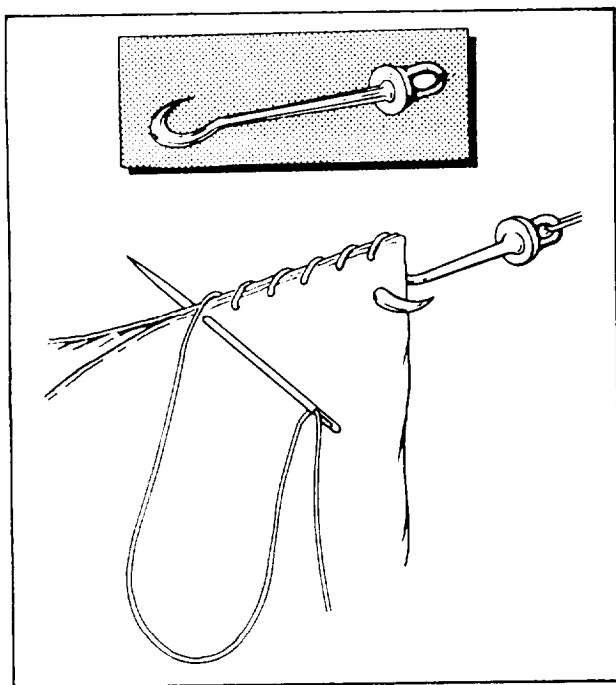

Figure 3-34.-Round stitching canvas held by a bench hook.
- **Sailmaker's or bench hook:** This hook has a swivel eye. It is used to hold the ends of two pieces of canvas being sewn together, as shown in figure 3-34.
- **Round stitch:** The round stitch is the one used most commonly for joining two pieces of canvas. Turn back the edges, hold the pieces together, and send the needle through both pieces at right angles at the seam, as shown in figure 3-34.